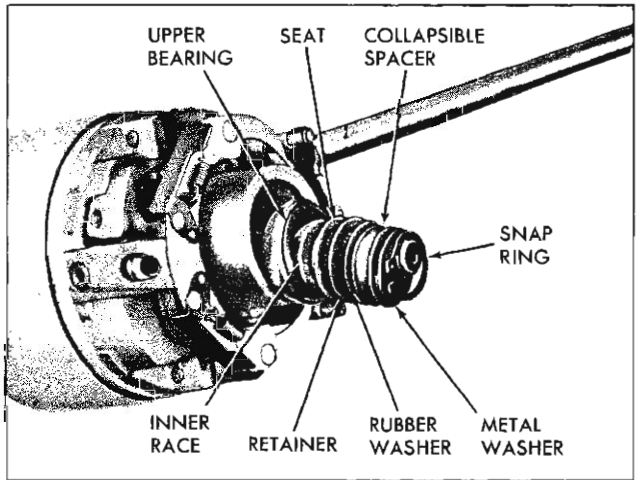

Fig. 20—Upper Bearing Attaching Parts
6. Remove the snap ring, metal washer, collapsible spacer, rubber washer, retainer, seat, inner race and steering shaft upper bearing (fig. 20).